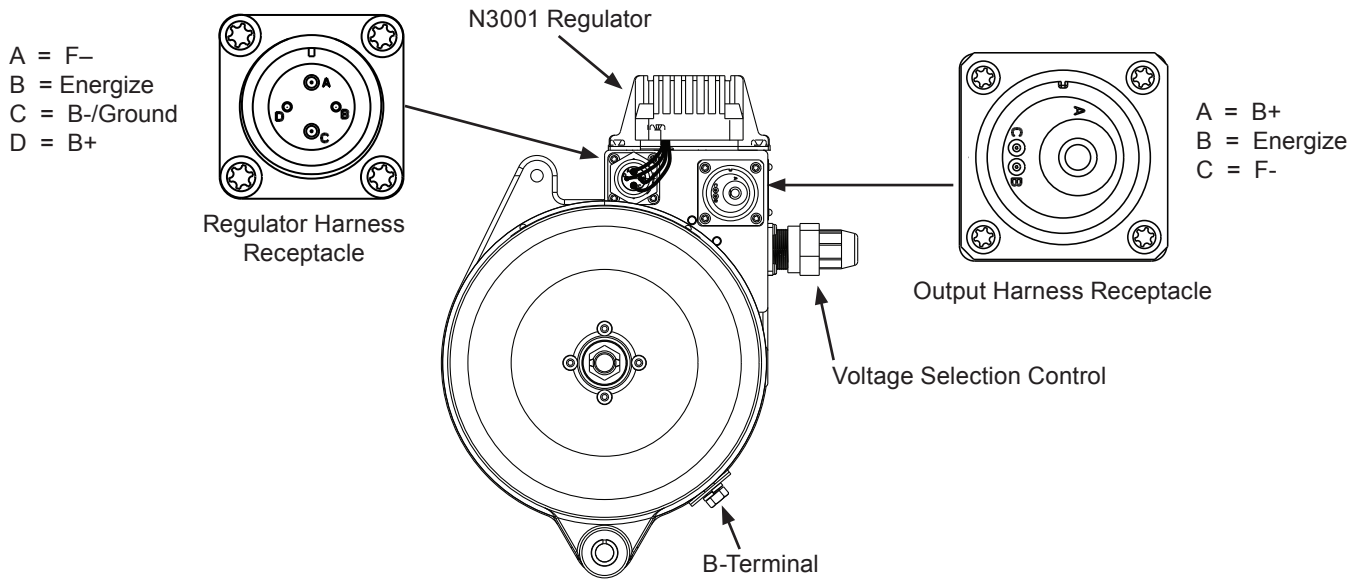

Figure 1: N1301 Alternator Connections
1. Twist voltage selection control adapter on alternator counterclockwise and remove from receptacle. See Figure 1 on page 2 for adapter location.
- a. Connect DMM red lead to alternator B+ terminal on alternator output harness receptacle. Refer to Figure 1 on page 2 for terminal location.
- b. Connect DMM black lead to alternator B– terminal. Refer to Figure 1 on page 2 for terminal location.